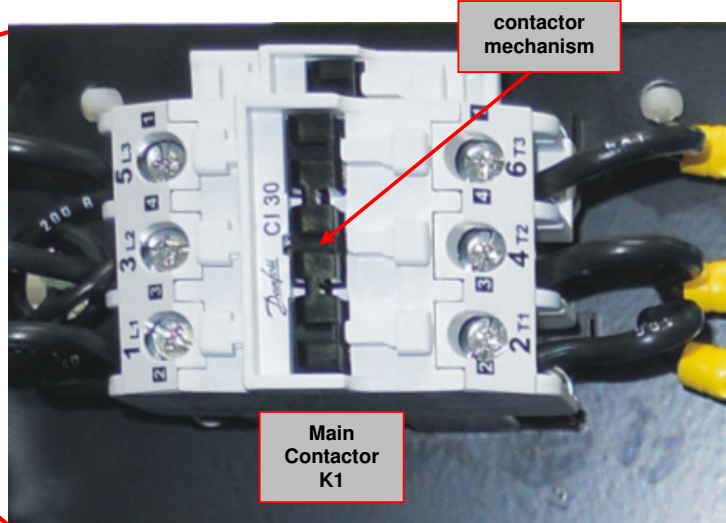

Figure 2a
4. Using the multimeter (ohm mode) perform the tests as indicated in **Test Table 1**. See **Figure 2a** for correct test points location.
8. Using the multimeter in VAC mode perform the tests as indicated in **Test Table 2**. See **Figure 2a** for correct test points location.